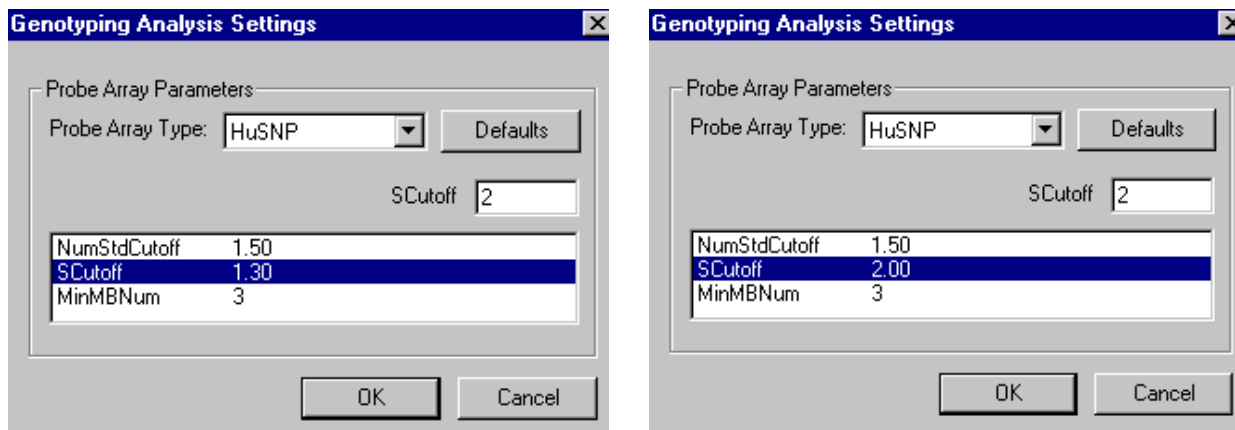

Figure C.2 *Enter a new parameter value in the upper field (left) and click OK to save the new parameter value (right)*
3. To edit a parameter value, highlight the parameter in the lower field and enter the new value in the upper field. Click the lower field to display the new parameter value (Figure C.2).
Increasing the NumStdCutoff threshold increases the stringency of the analysis. To change the threshold value, highlight **NumStdCutoff** in the GenoTyping Analysis Settings dialog box and enter the desired value in the field at the right (Figure C.2).
Increasing the S Cutoff threshold increases the stringency of the analysis. To change the threshold value, highlight **S Cutoff** in the GenoTyping Analysis Settings dialog box and enter the desired value in the field at the right (Figure C.2).
This specifies the minimum number of miniblocks per block that must pass all of the quality control tests so that the data from that block may be used in the analysis. Increasing the Minimum Miniblock Number increases the stringency of the analysis. To change the threshold value, highlight **MinMBNum** in the Genotyping Analysis Settings dialog box and enter the desired value in the field at the upper right (Figure C.2).